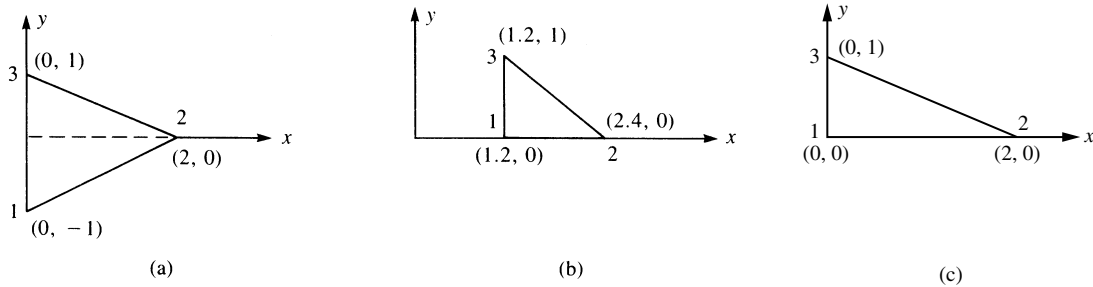

Figure P6-3
- 6.3 Evaluate the stiffness matrix for the elements shown in Figure P6-3. The coordinates are in units of inches. Assume plane stress conditions. Let  $E = 30 \times 10^6$  psi,  $\nu = 0.25$ , and thickness  $t = 1$  in.